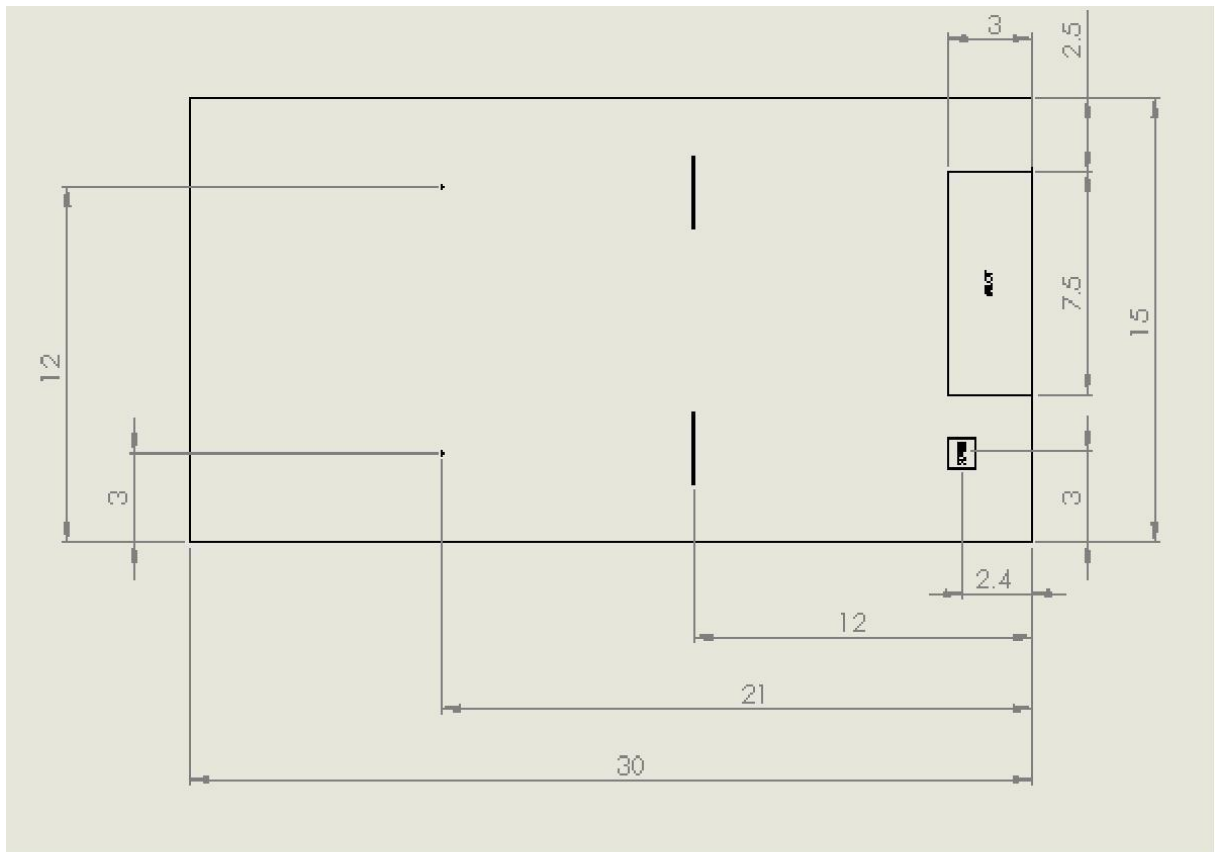

Figure 6.1: Competition Setup of Category E
Figure 6.1 shows the competition setup for Category E. It consists of 3 main areas: (1) runway for takeoff and landing, (2) clearing of obstacles and (3) stunt area performance.